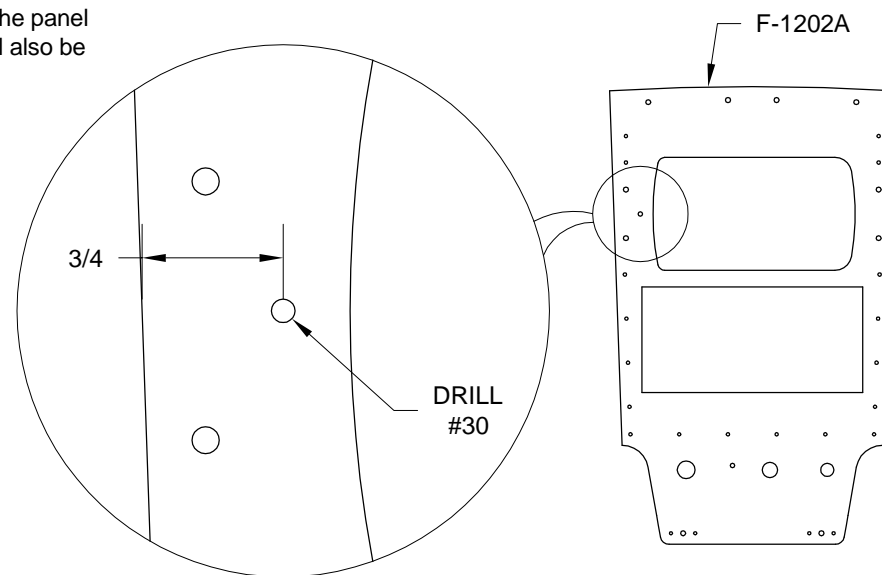

FIGURE 3: GPS RELEASE HOLE
Step 3: Deburr the cutouts in the F-1202A Instrument Panel. If desired drill #30 for releasing the GPS from the front of the panel per the dimensions in Figure 3. It will also be necessary to enlarge the hole the GPS fits into.